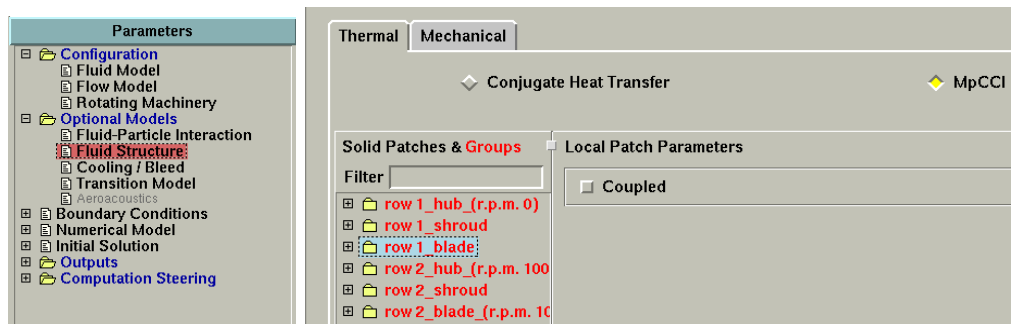
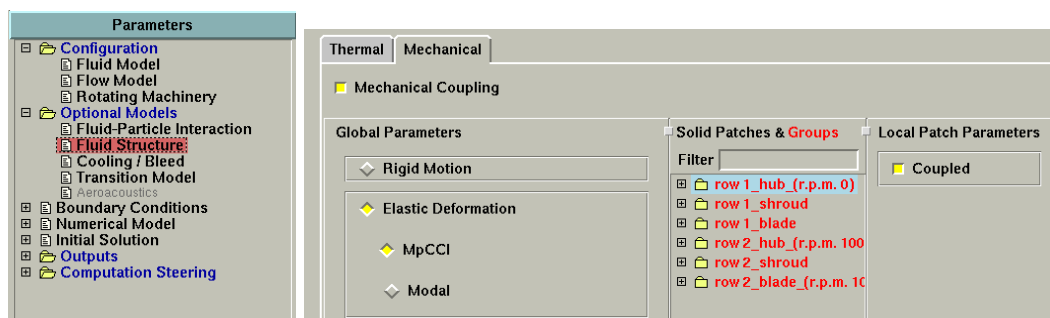

Figure 2: Setting coupled thermal boundaries in Fidelity Fine Turbo GUI
Figure 3: Setting coupled mechanical boundaries in Fidelity Fine Turbo GUI
2. If you are familiar with Fidelity Fine Turbo, you can set up your model as usual and activate the boundaries by yourself for the coupling (▷7.2.1 Model Preparation◁) in Fidelity Fine Turbo GUI: Optional Models - Fluid Structure - Thermal or Mechanical (see Figure 2, Figure 3). In this scenario you will have a scan method option in the Models Step of MpCCI GUI to select only the boundaries you have prepared for the MpCCI coupling (see ▷7.2.2 Models Step◁).